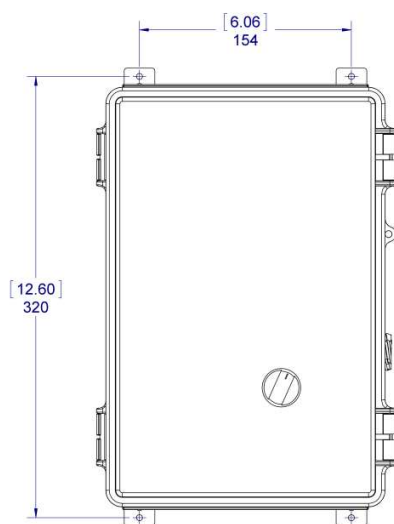
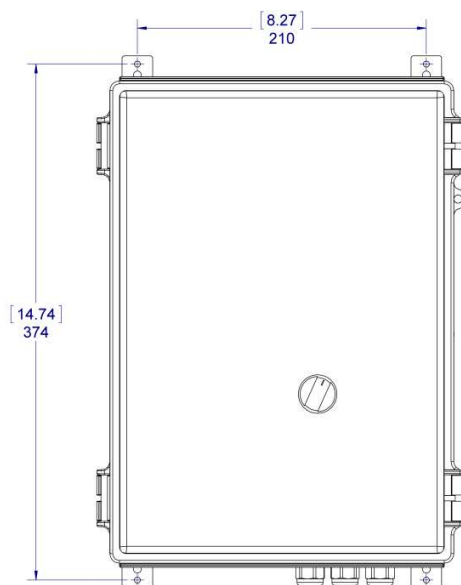

Figure 2. One-Lamp Systems
Figure 3. Two-Lamp Systems
Step 2: There are two different **RAINIER** control panels, depending on which system is purchased. The three single lamp systems ("35", "55" and "85" series) use a control panel that is 32.0 x 20.0 x 15.0 cm (12.6 x 7.9 x 6.1") in size (see Figure 2), while the three two-lamp systems use a control panel that is 37.4 x 30.0 x 21.0 cm (14.7 x 11.8 x 8.3") in size (see Figure 3).